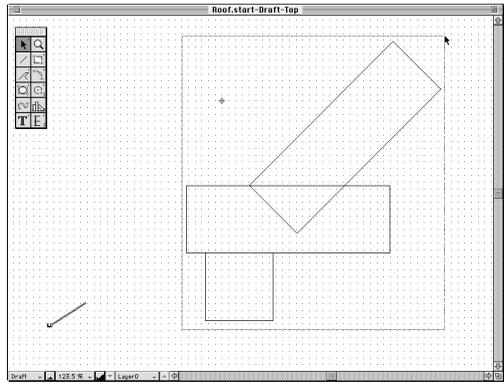

Fig. 65 Selecting rectangles
2. Drag a box around the three rectangles (figure 65). DENEBCAD selects the rectangles, and a bounding box appears around each rectangle.